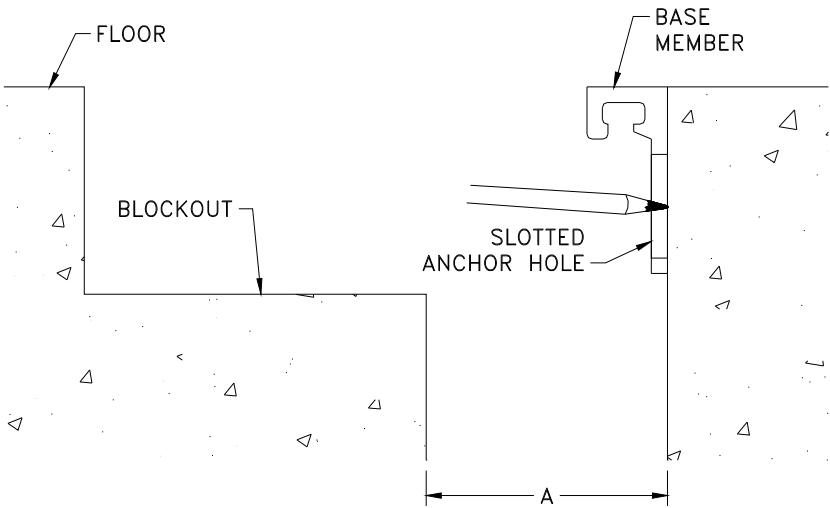

Figure 8
STEP 11. Using the base member as a template, mark the locations for the anchors on the concrete (see Figure 8).